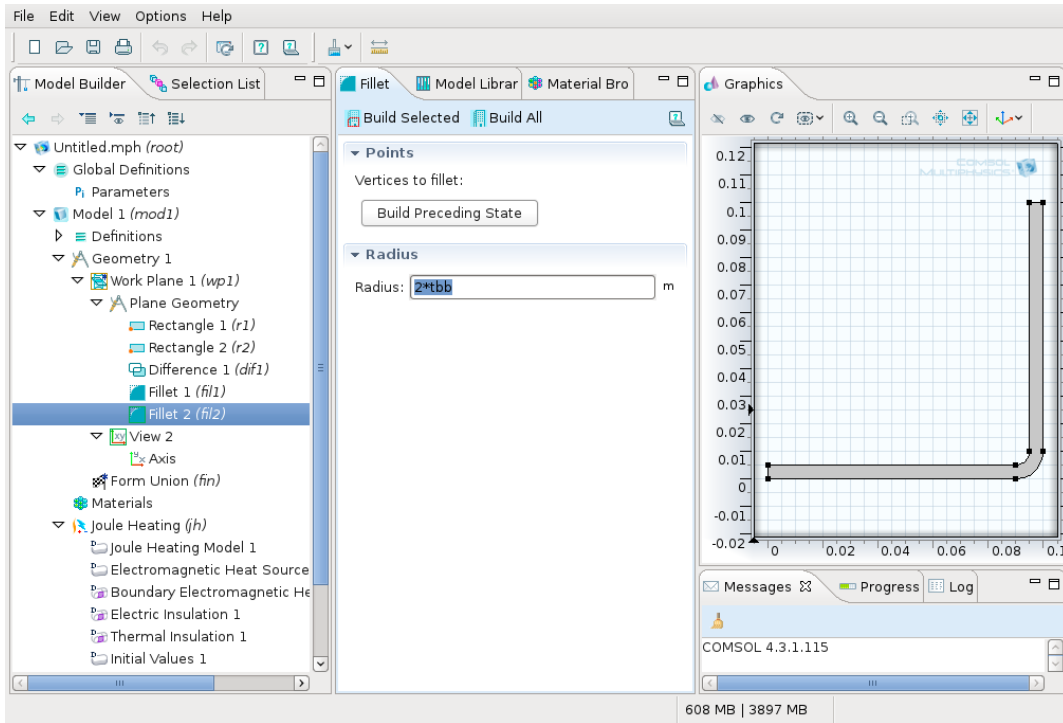

Figure 18: Rounding the external corner.
- click the **Build Selected** button (Fig. 18).